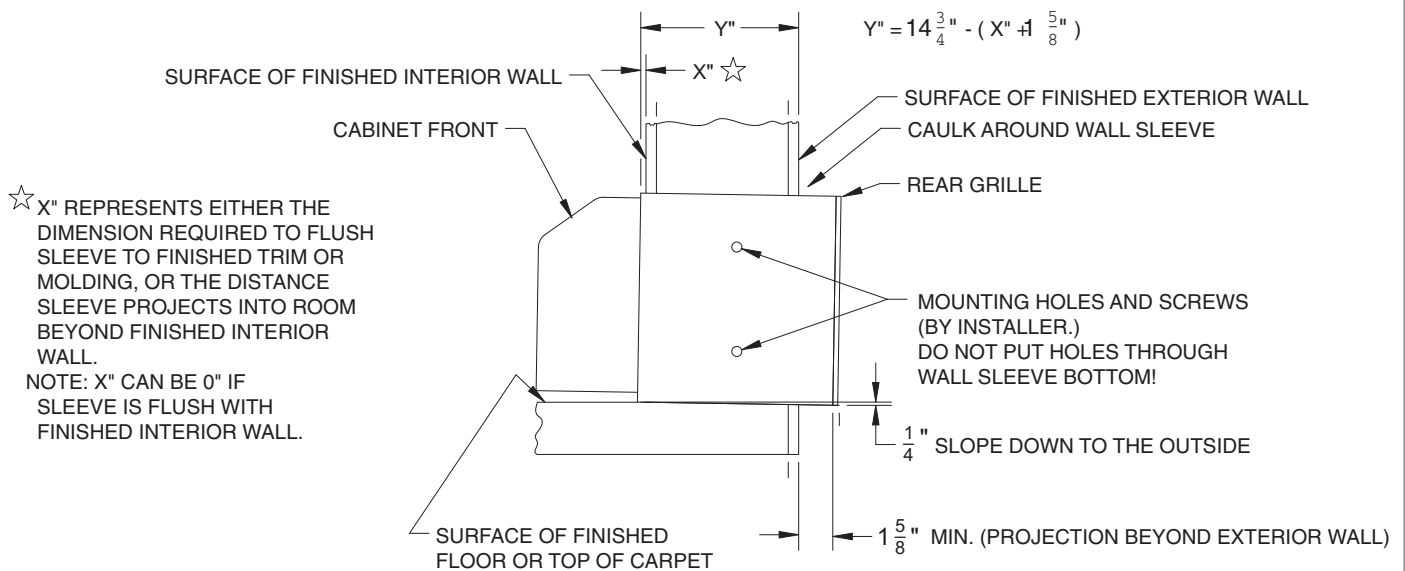

Figure 9
4. Secure the wall sleeve to the wall as shown in **Figures 9 & 10**. Be sure wall sleeve has a 1/4" slope to the outside. Do not slope toward front! To avoid water damage to the wall, do not put holes through the bottom of the wall sleeve.
NOTE: If the unit is to be mounted flush with the exterior wall, wall sleeve must protrude beyond the finished exterior wall a minimum of 1/4". If rear gas connection, sleeve must extend beyond the finished exterior wall surface 1-5/8". (See **Figures 9, 10, & 11**.)
5. Trim around the wall sleeve with moulding or other suitable material. (See **Figures 9, 10, & 11**.)
6. Install the grille with louvers angled in the downward position, as shown in **Figures 9, 10 & 11**.